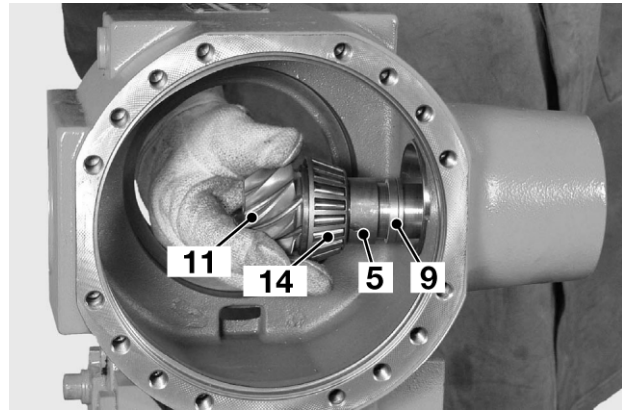

Fig 61.
- 16 Install the distance-ring **5** and the pre-calculated (S2) shim **9** onto the pinion, then install the pinion into the pinion-housing **12**. → Fig 61. (□ F-30).